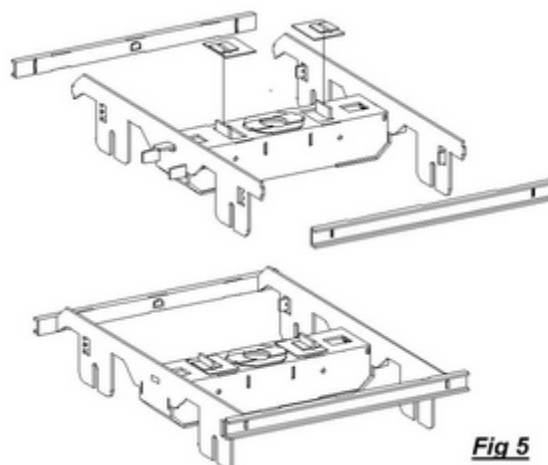

Fig 5
Fix the side-frames to the bolster by twisting the protruding tabs. Apply flux and secure with solder, both on the tabs and the folded underside of the bolster. Capillary action will draw the solder along the joints (Fig 5). Take care to avoid blocking the small holes at the outer ends of the bolster side where the spring wire will be located. Check for twist in the frame (should sit flat on a level surface). Carefully adjust as necessary.
Remove the bolster bearer pads (4) from the etched sheet and locate over the bolster rotation limiting tabs, with the half etched end towards the centre, covering the hole from the tab fold. Flux and solder in position (Fig 5) taking care to avoid getting solder on the raised top face of the bearer pads.
Wash the completed bogie frame to remove all flux residues; cut off the protruding bolster tabs where the sides are soldered and finish flush with a fine sanding disc. (Fig 5)